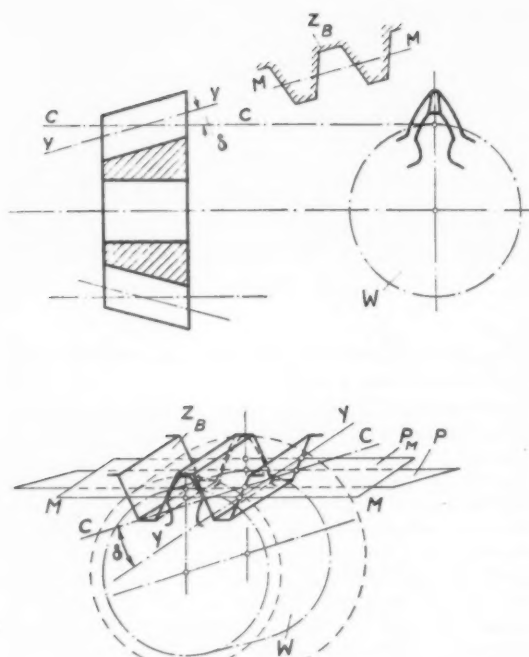
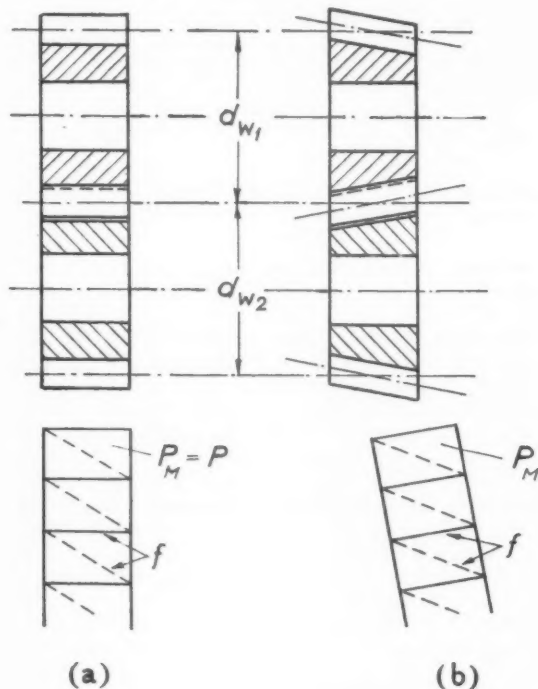

Fig. 10
Fig. 11
(2) The driver and driven are designed as so-called "conical involute gears" the teeth of which belong to the involute-tooth system derived from a standard basic-rack profile. Fig. 10 shows that the plane of symmetry P_M of the profiles of the basic rack Z_B , however, is not parallel to the axis of the gear as in the case of normal cylindrical gears, but inclined to it at an angle δ . The amount of inclination depends on the utilisation of the gears and is limited by undercut of the teeth at one end and by running to a point at the other. The teeth are produced by the generating process on a hobbing machine, a gear shaper or a gear planer in the usual way, except that the cutter is moved in the direction YY which is inclined at an angle δ instead of being parallel to the axis of the gear, by means of special additional equipment. As the tooth pitch is not influenced by the inclination of the basic rack Z_B , the pitch plane P and the pitch cylinder W remain unaltered. Thus the contact between this imaginary rack and such a gear takes place along straight lines. Also two conical involute gears connecting parallel axes (Fig. 11 (b)) engage correctly with full line contact. Such gears can be displaced axially without detriment to uniformity of angular velocity, by which means backlash between the gear teeth can be adjusted in a simple way. Fig. 11 (a) shows normal cylindrical gears by way of comparison with conical involute gears.